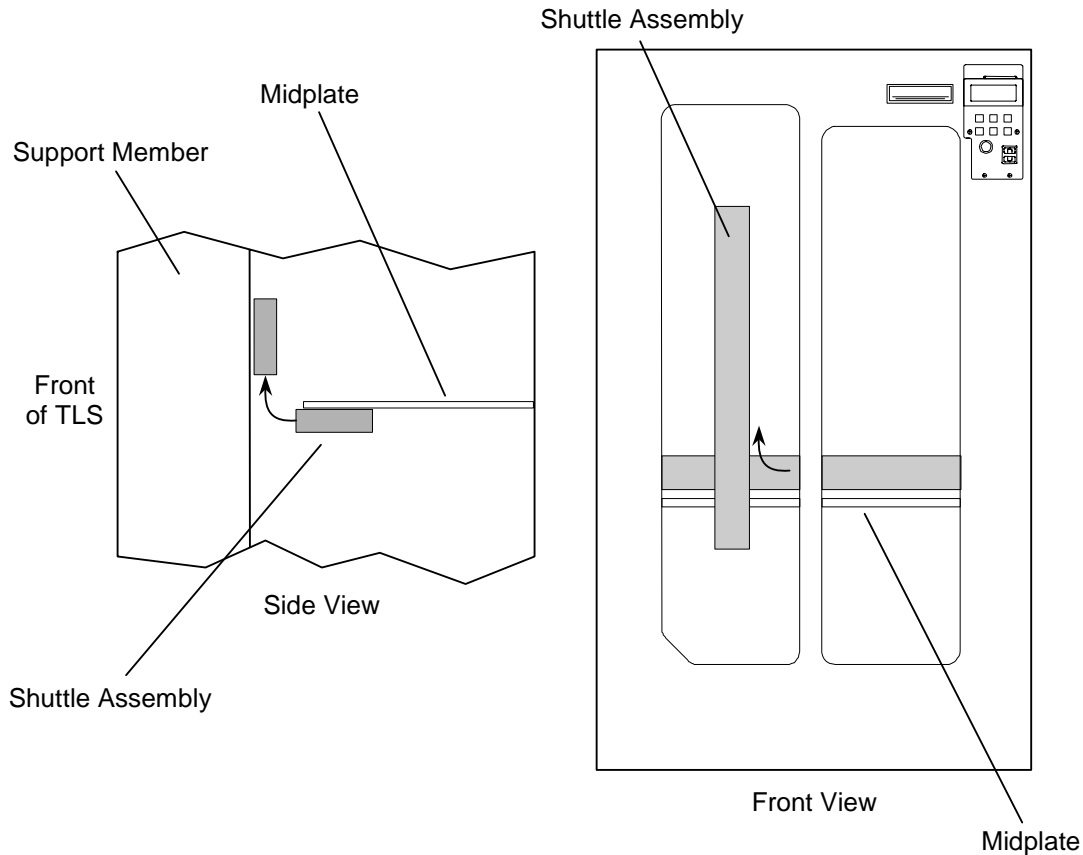

Figure 7-50 Two Views of Shuttle Assembly Removal from TLS
8. Using both hands pull the Shuttle Assembly towards the front of the TLS while tilting it upwards to clear the Midplate and the support member in the center of the front opening (Figure 7-50).
9. When the Shuttle Assembly has cleared the Midplate and the support member, rotate it 90 degrees to vertical and remove it through the front of the TLS (Figure 7-50).
1. Hold the Shuttle Assembly in a vertical position with the circuit boards and wiring facing inward and insert it through the front of the TLS. When clear of the support member, rotate the Shuttle Assembly 90 degrees to horizontal (Figure 7-50). Note that when oriented correctly the motor will be facing the left side of the TLS.